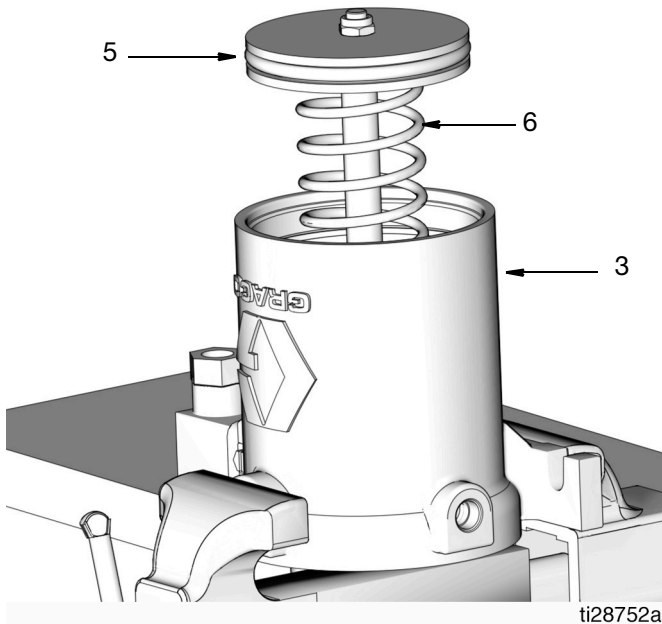

FIG. 34
9. Install the spring (6) over the piston rod (34) and install spring and piston rod into the air cylinder (3) (FIG. 34).